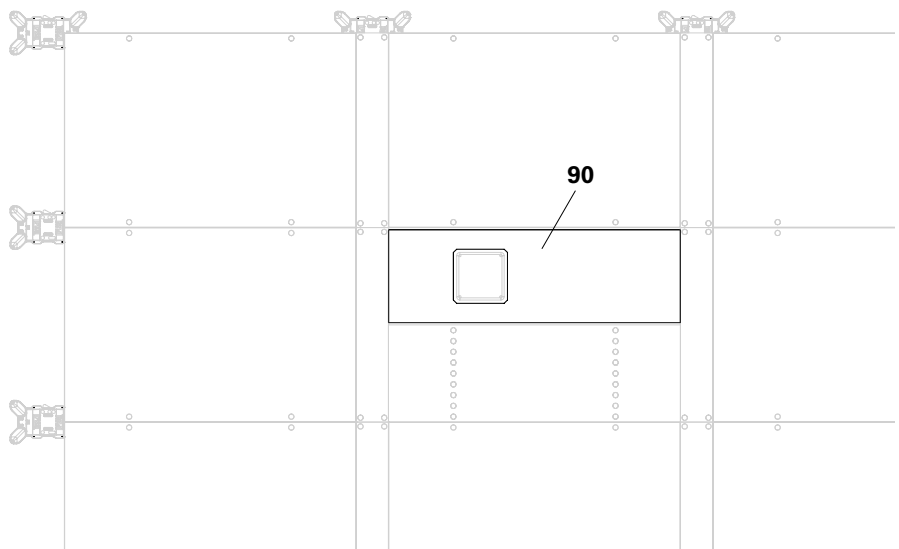

Fig. D3.12
6. Continuously fill the compensation area with 18 mm filler plates (90), and secure on the timber from the top with nails. (Fig. D3.12)